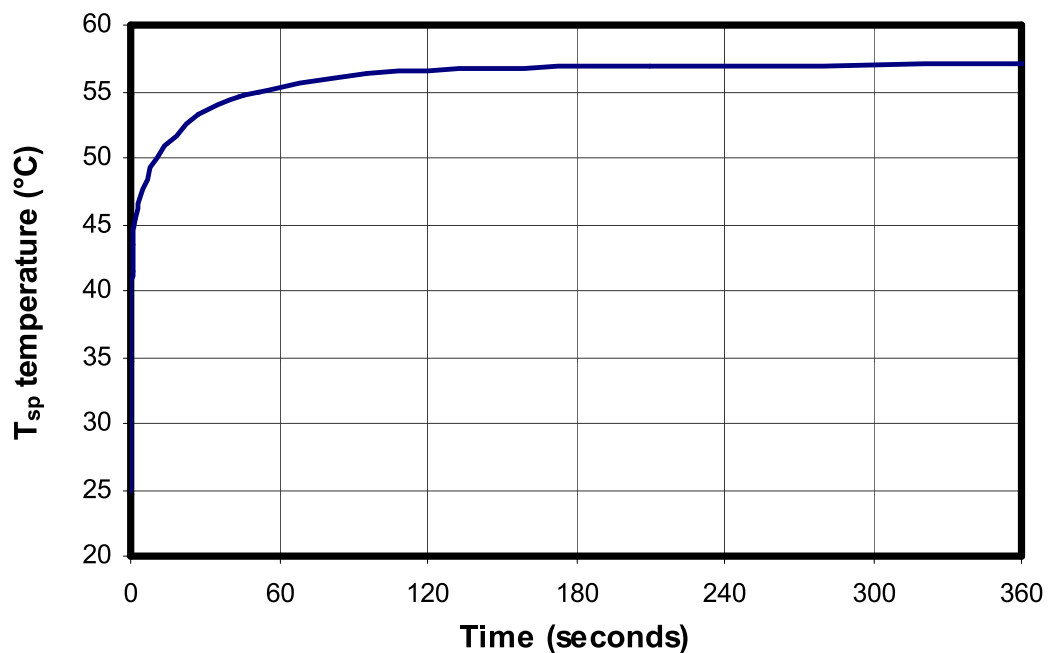

Figure 4. Measured T_s versus time for a LUXEON LED (mechanical configuration A). The temperature has not changed much after 3 minutes.
11. Power up and start recording the T_s until temperature stabilization is achieved. This may take a minute or more depending on the overall thermal design. See Figure 4.
12. Use equation (3) to calculate the junction temperature T_j .
The graph in Figure 4 shows experimental temperature data over time for a LUXEON LED with mechanical configuration A. Using the data from Figure 4, the equilibrium temperature for T_s is about 57°C.